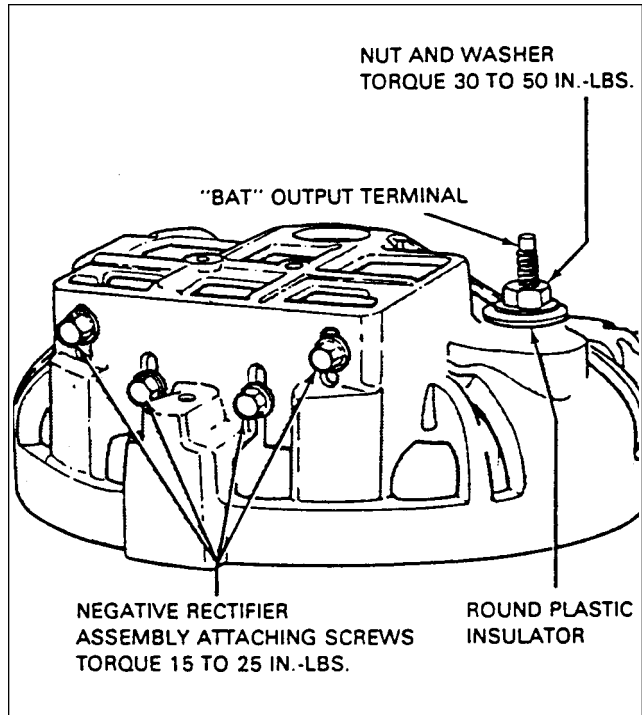

Figure 24-25. Installation of Battery Output Insulator
12. Turn end shield over and install round plastic insulator over battery terminal with flat side up. Install nut and washer and tighten to a torque of 30 to 50 inch-pounds. (Refer to figure 24-25.)